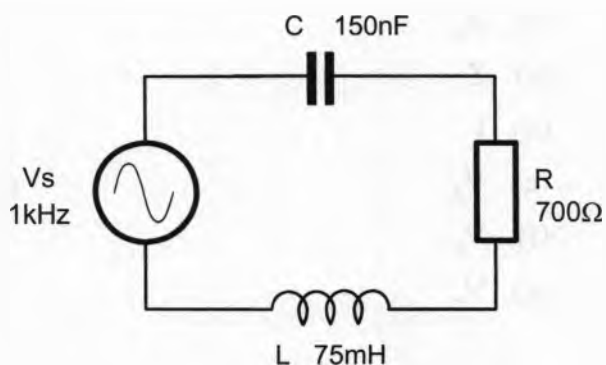

Figure 8
15. For the circuit of Figure 8, if the potential difference across the resistor (V_R) is 7V (peak), then calculate: